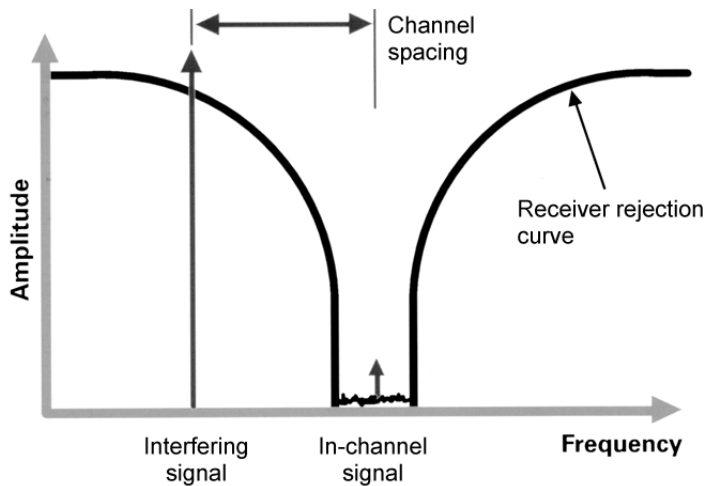

Figure 4. Receiver IF passband with in-channel signal present
One common measurement for testing receiver rejection of unwanted signals is adjacent channel selectivity. Figure 4 shows a receiver intermediate frequency (IF) passband with an in-channel signal at a specific sensitivity level. A second signal generator set one channel spacing away. The signal generator's amplitude increases until the signal passes through the passband and distorts the in-channel signal by a specified amount. Adjacent channel selectivity is the difference between the two signal levels.